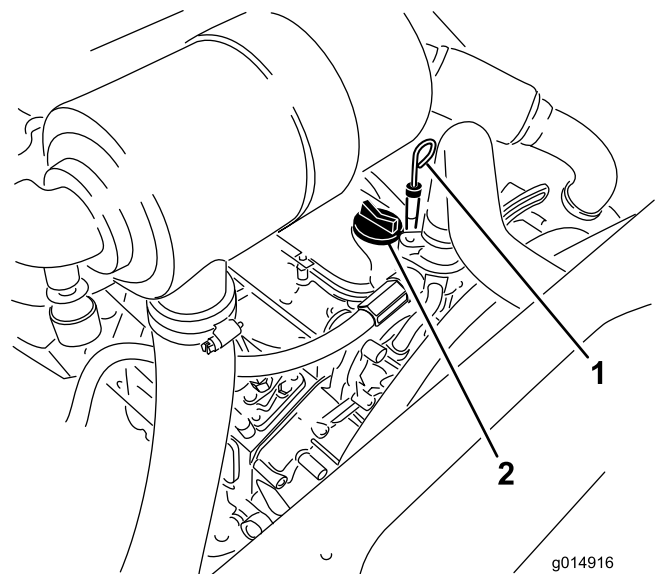

Figure 33
3. Remove the dipstick, wipe it clean, and install it (Figure 33).
5. If the oil level is below the Full mark, remove the fill cap (Figure 33) and add oil until level reaches the Full mark on dipstick.